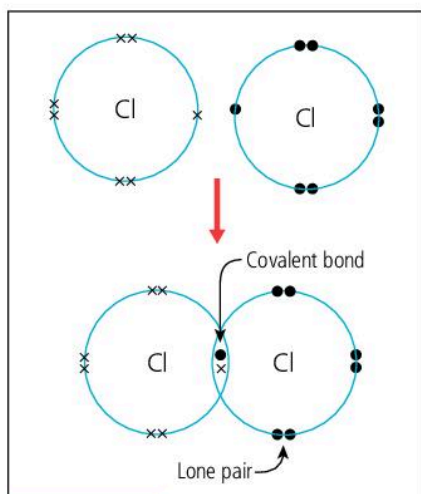

Figure 5.2.1 In a chlorine molecule, each atom shares a pair of electrons, forming a single covalent bond.
- Use a dot for electrons of one of the atoms and a cross for the electrons of the other (see Figure 5.2.1).